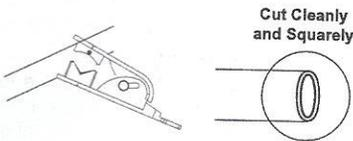

Figure 2
3. If the tubing is too long, cut it to a suitable length using pipe cutter. Cut the tubing squarely and cleanly (Figure 2). Make sure the tubing is fully inserted.